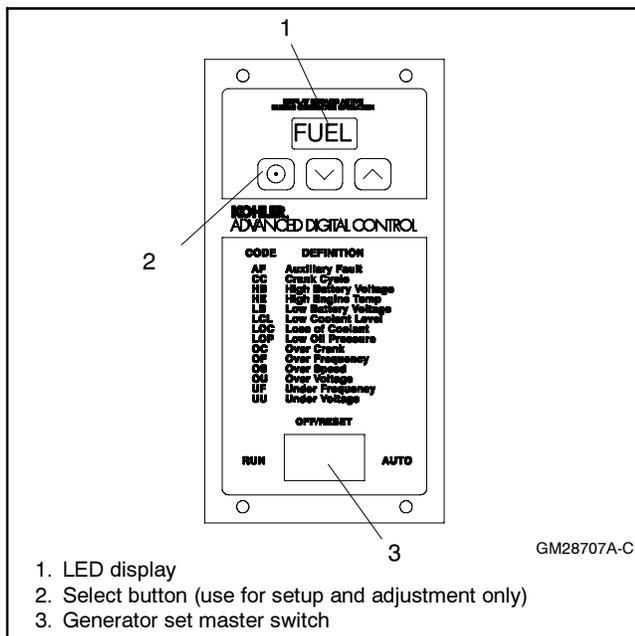

Figure 5-8 ADC 2100 Control
1. Press and hold the Select button on the ADC. See Figure 5-8.
2. While holding the Select button, move the generator set master switch into the RUN position. See Figure 5-8.
3. Keep holding the Select button until step 6. The ADC software version and then FUEL will appear on the ADC's LED display. See Figure 5-8.